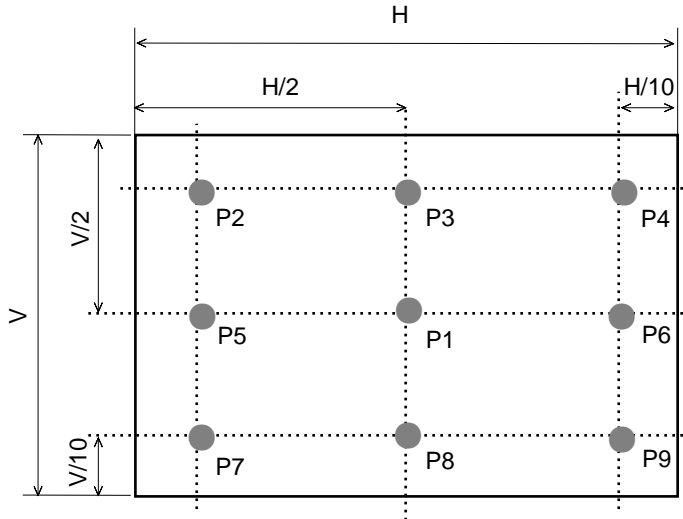

FIG. 2 Measure Point for Luminance
- 2. Surface luminance(L_{WH})is luminance value at Center 1 point(P1) across the LCD surface 50cm from the surface with all pixels displaying white. For more information see FIG 2.(By PR880)
For more information see FIG 2.